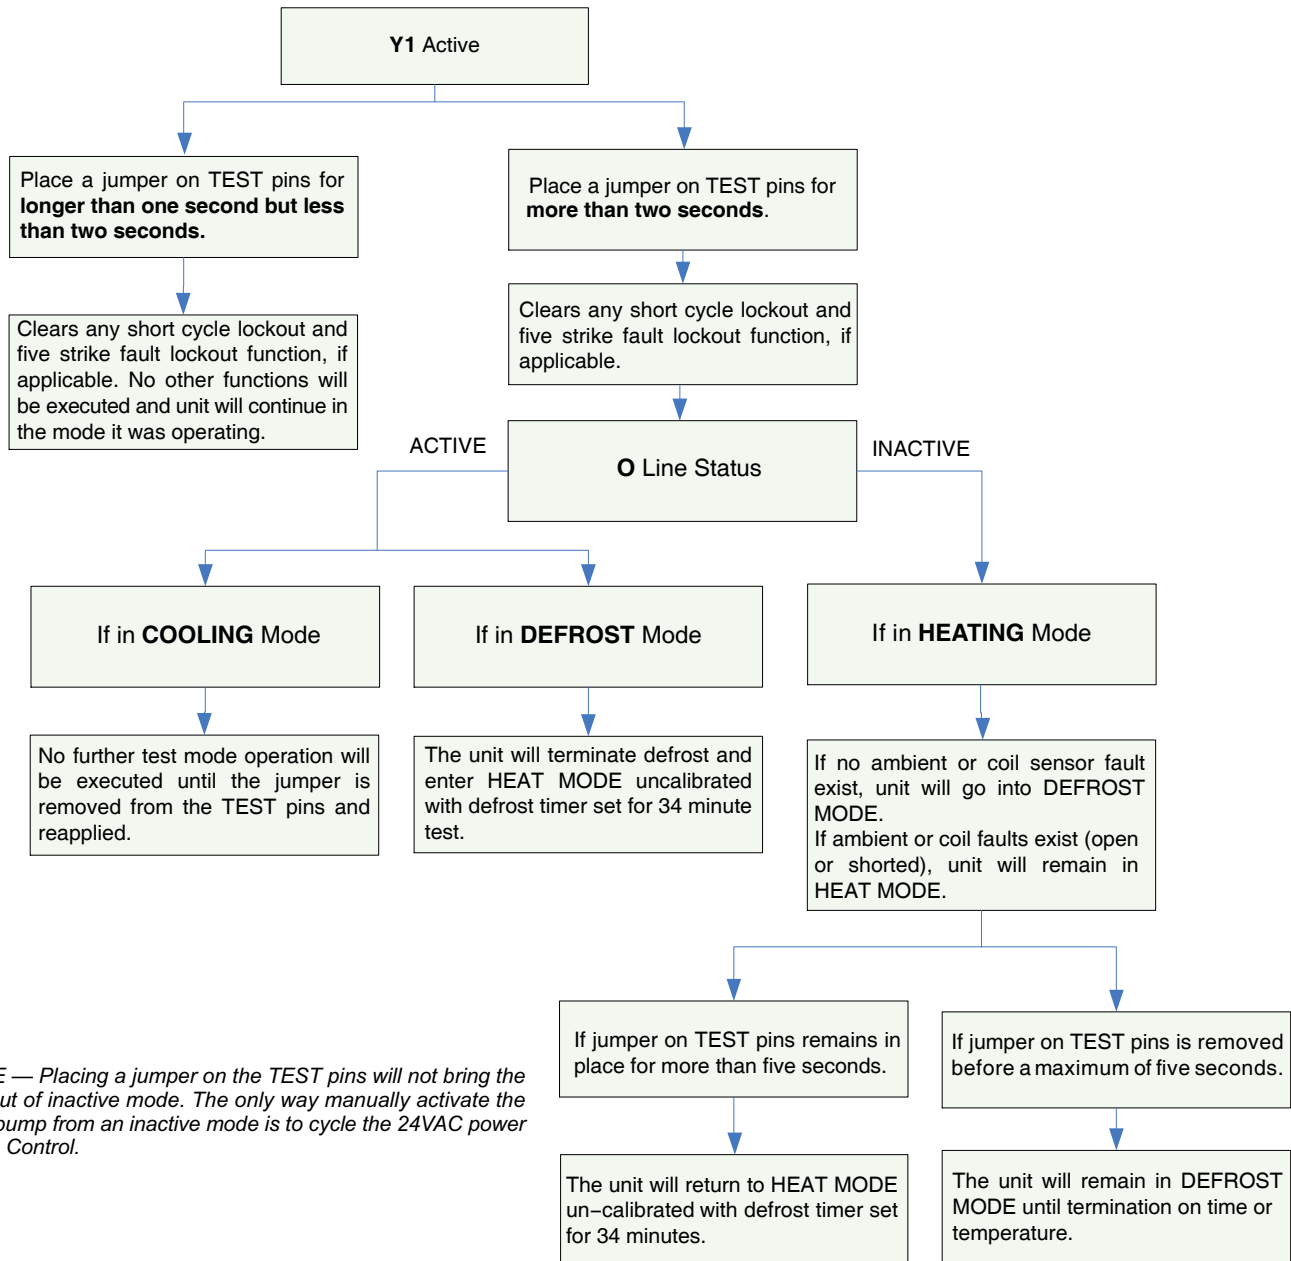

Figure 23. Test Mode
- **Test Mode**— See Figure 23.
Each test pin shorting will result in one test event. For each TEST the shunt (jumper) must be removed for at least one second and reapplied. Refer to flow chart (figure 23) for TEST operation.